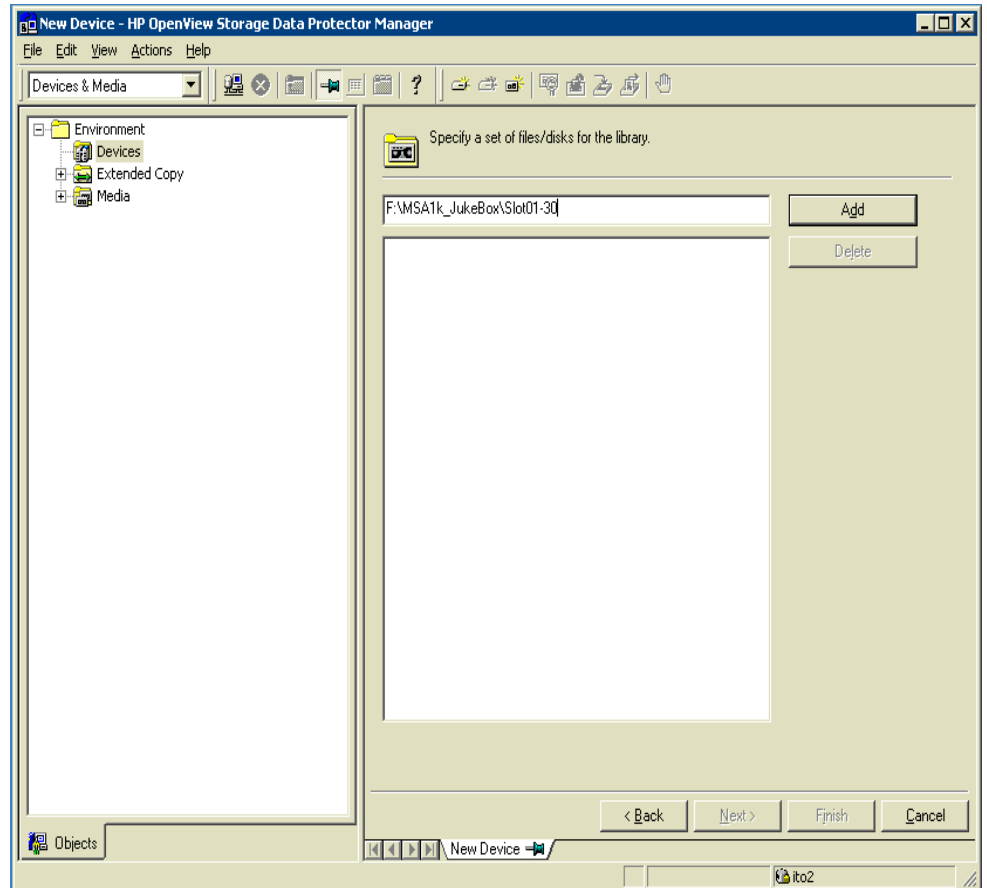

figure 6
6. Enter the path for the slotnames. See Figure 6.